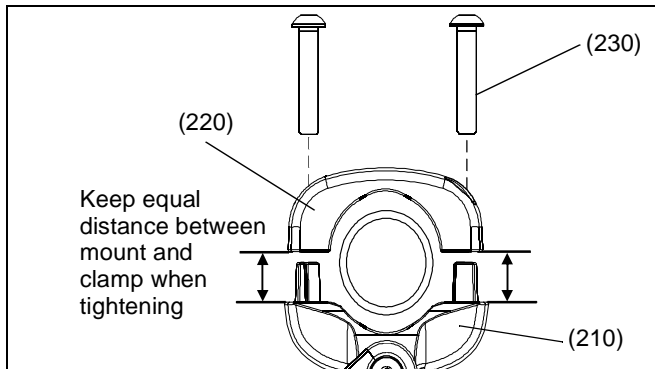

Figure 4: Tightening clamp to mount
NOTE: Equally tighten screws (230) against front pole mount (210) and the rear pole clamp (220). (see Figure 4)